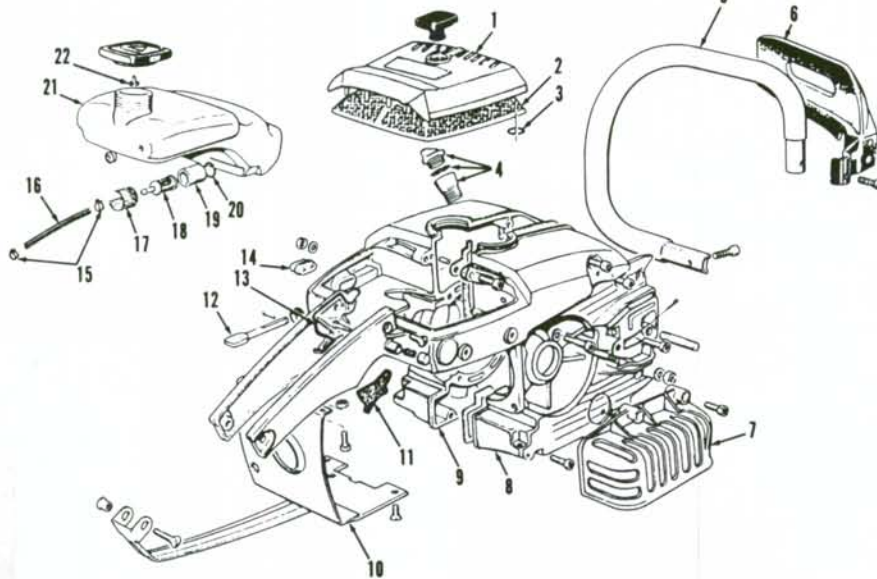

Fig. AP55—Exploded view of crankcase, front handle assembly, fuel tank and related components used on Models 070, 070S and A70.
Fig. AP56—Exploded view of crankcase, front handle assembly, rear grip assembly, fuel tank and related components used on Model Super Pro 70. Refer to legend in Fig. AP55 for component identification except, safety lever (23), vibration isolator (24) and rear grip assembly (25). Super Pro 90 and Super Pro 120 models are similar.